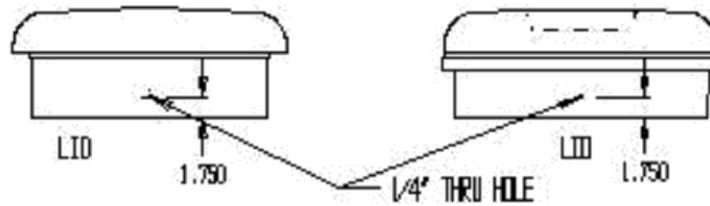

FIGURE 1
1. Drill 1/4" diameter through hole in the collar of the lid. See figure 1.